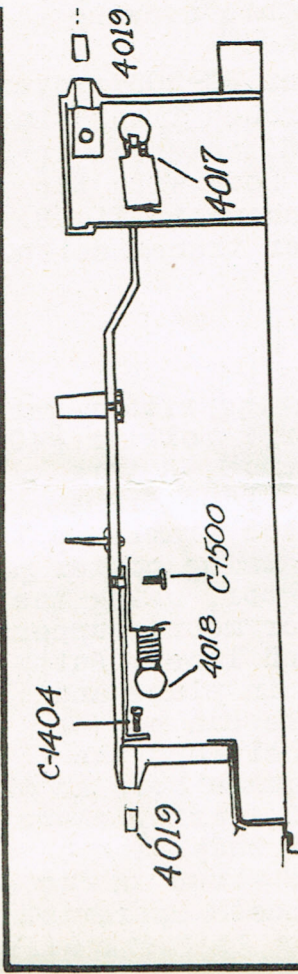
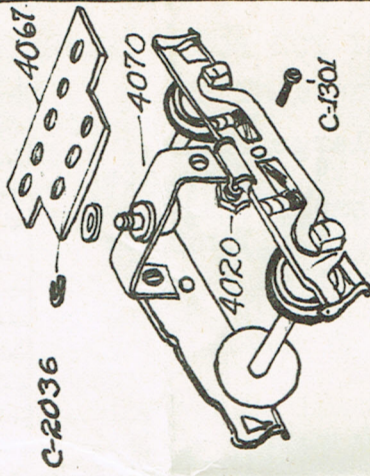
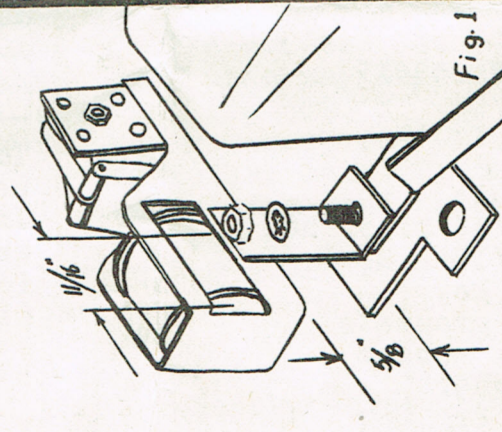
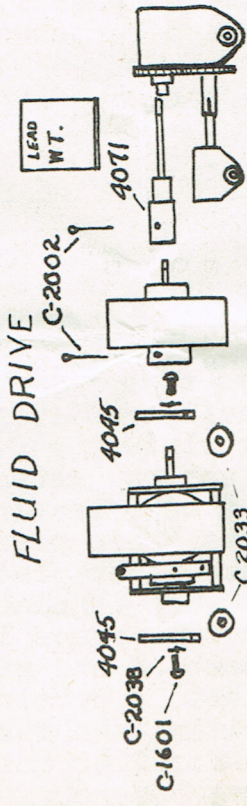

Fig. 2
Fig. 3
Fig. 4
Fig. 6
- 9-The trucks are now assembled as shown in Fig.3. This drawing should be self explanatory.
- 10-To mount trucks to body, first place one #8 washer, #C-2037, over the king pin to act as a spacer. Then put pin through floor plate, #4067, and lock in place with "C" washer, #C-2036, as shown in Fig.3. The floor plates are then fastened to the body with the four #4-40x3/16" binder head screws, #C-1402, as shown in Fig.9.
Follow the directions as shown in the exploded drawing with regards to the assembly of the truck side frames to the truck bolster #4070. The geared units should be assembled as shown in Fig.6. Before tightening side frames, place geared unit wheels in side frame bearing holes. Then tighten the screws, pulling side frames up to the bolster. Mount flexible shaft, #4071, to motor using cotter pin #C-2002. Fasten motor mounting plates, #4045, to motor, using the four #6-32x3/16" R.H. machine screws. Assemble motor mount support bars, #4044, to floor plates, #4067, leaving one end loose. Put rubber grommets in holes in bars, then place motor in place and fasten loose end of frame to the floor plate. Trucks can now be mounted as shown in fig.3. As truck is placed in position, the flexible shaft must be slipped into place in the square hole in the geared unit. After unit is assembled and wired, (A.C. wiring shown in Fig.2) it should be tested before putting on the body. The lead weight should be placed in position and fastened as shown in Fig.4. Unit should be kept lubricated for long life and smooth operation. Refer to Fig.6-7-8 for the above assembly. Assembly of FLUID DRIVE is shown in Fig.6.